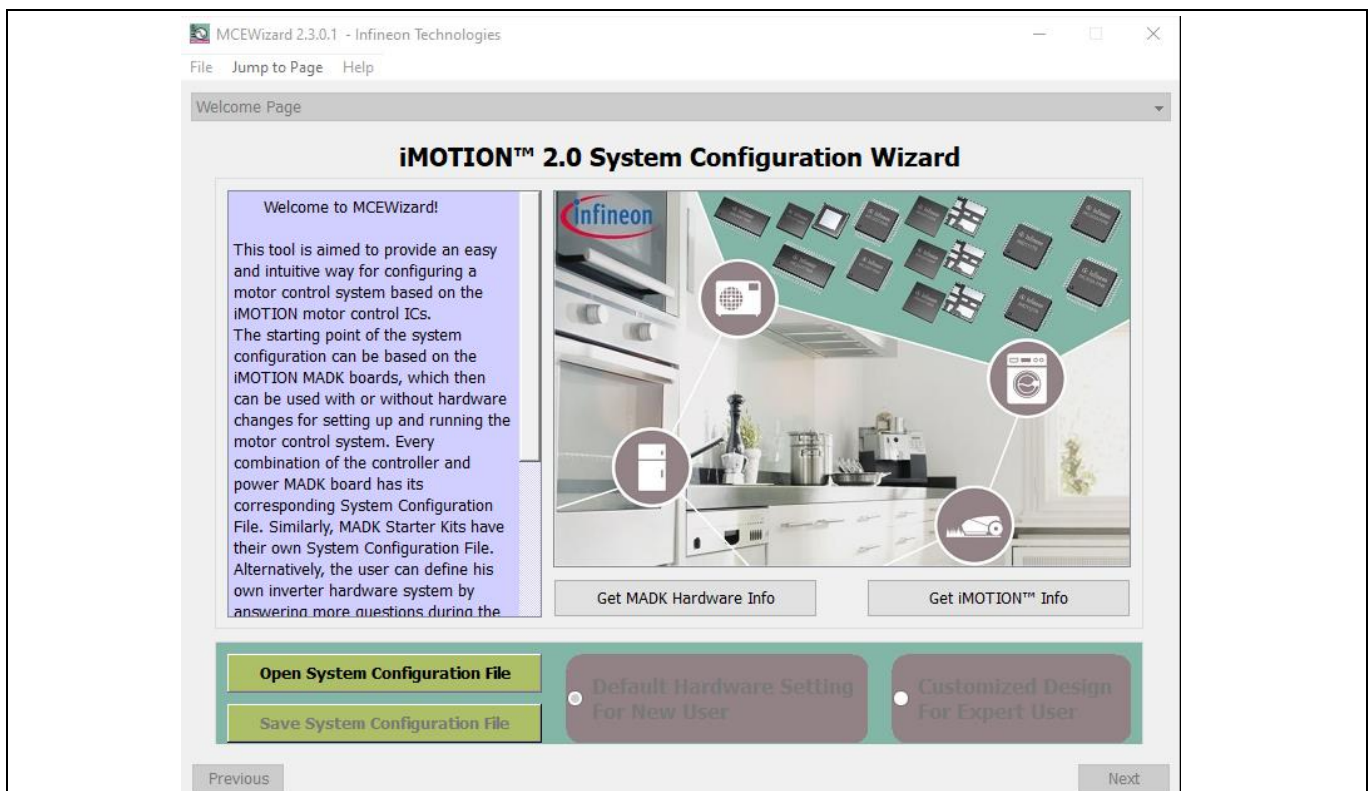

Figure 4 MCEWizard welcome page
- Double-click the MCEWizard shortcut on Windows desktop, the MCEWizard welcome page is shown as in Figure 4.
Figure 4 points out the evaluation board of EVAL-M7-HVMOS-INV functional group.